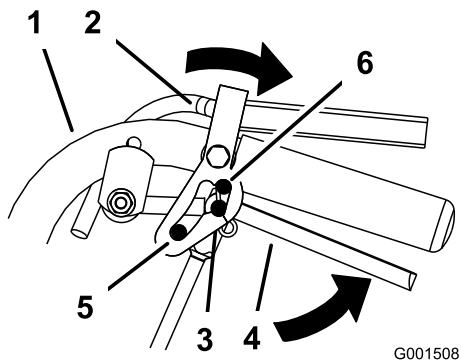

Figure 10
2. Place thumbs on the upper part of the locks and move them back until the pins are in the neutral position (Figure 10).